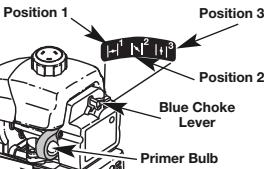

Fig. 7
- Fully press and release the primer bulb 10 times, slowly. Some amount of fuel should be visible in the primer bulb and fuel lines (Fig. 7). If you can't see fuel in the bulb, press and release the bulb as many times as it takes before you can see fuel in it.
- Place the blue choke lever in **Position 1** (Fig. 7).
- Once the engine is warmed up, place the blue choke lever in **Position 3** (Fig. 7). The unit is ready for use.
IF... The engine hesitates, return choke lever to Position 2 (Fig. 7) and continue warm up.